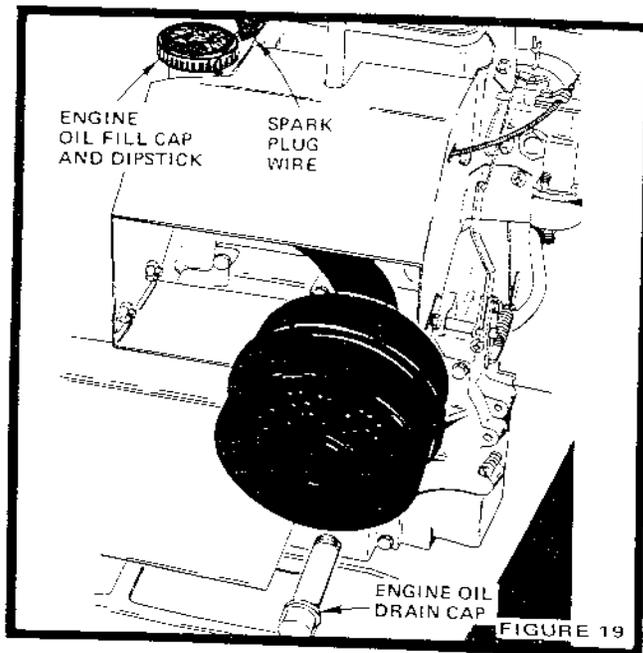

FIGURE 19
**DISCONNECT SPARK PLUG WIRE (FIG. 19) TO PREVENT ACCIDENTAL STARTING BEFORE MAKING ANY INSPECTION, ADJUSTMENT (EXCEPT CARBURATOR AND BELT TENSION) OR REPAIR.**
- Drain Oil with Engine warm. Unscrew Oil Drain Cap (Fig. 19) and catch Oil in a suitable container. Replace Cap.
- Refill Engine Oil (Fig. 19). In summer use S.A.E. 30 (SC, SD or SE) Oil. In winter (below 32°F.) use S.A.E. 10W30 (SC, SD or SE) or 10W40 (SC, SD or SE). In extreme cold (below 0°F.) use S.A.E. 5W20 (SC, SD or SE). Refill capacity is 3 - 1/4 pints. NOTE: DO NOT OVER-FILL.